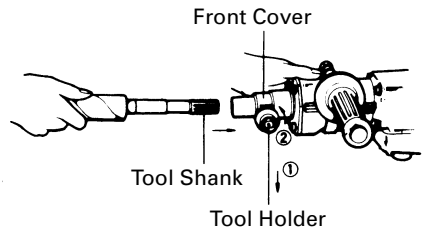

Fig. 3
(1) Clean, then smear the tool shank with the grease provided.
(2) Pull the tool holder in the direction of arrow ① and rotate it in the direction of arrow ② (counterclockwise). Fully insert the tool shank into the hexagonal hole of the front cover. (Fig. 3)
(3) Return the tool holder to fix the tool.